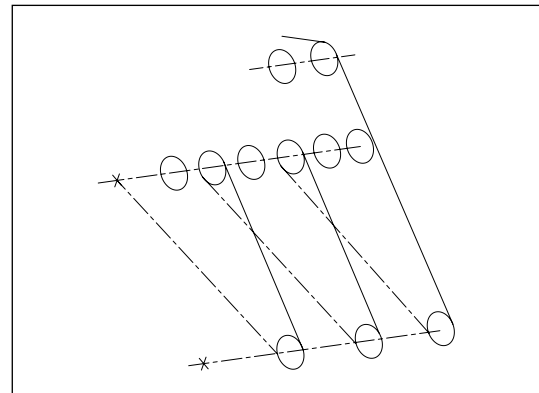

Figure9-30d: Six-magnification crossing and winding schematic
4. When lift weight with a six magnification, cross and wind steel wire rope according to the method as shown in Figure9-30d.